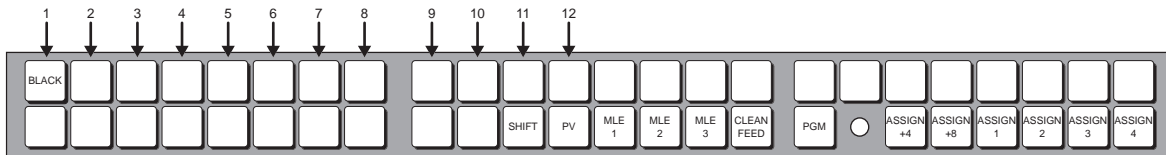

Figure 14.7 Aux Bus Output Buttons
- In assignment programming mode, the first 12 crosspoint buttons (Figure 14.7) represent Aux Bus outputs in the range specified in Step (2.) above.